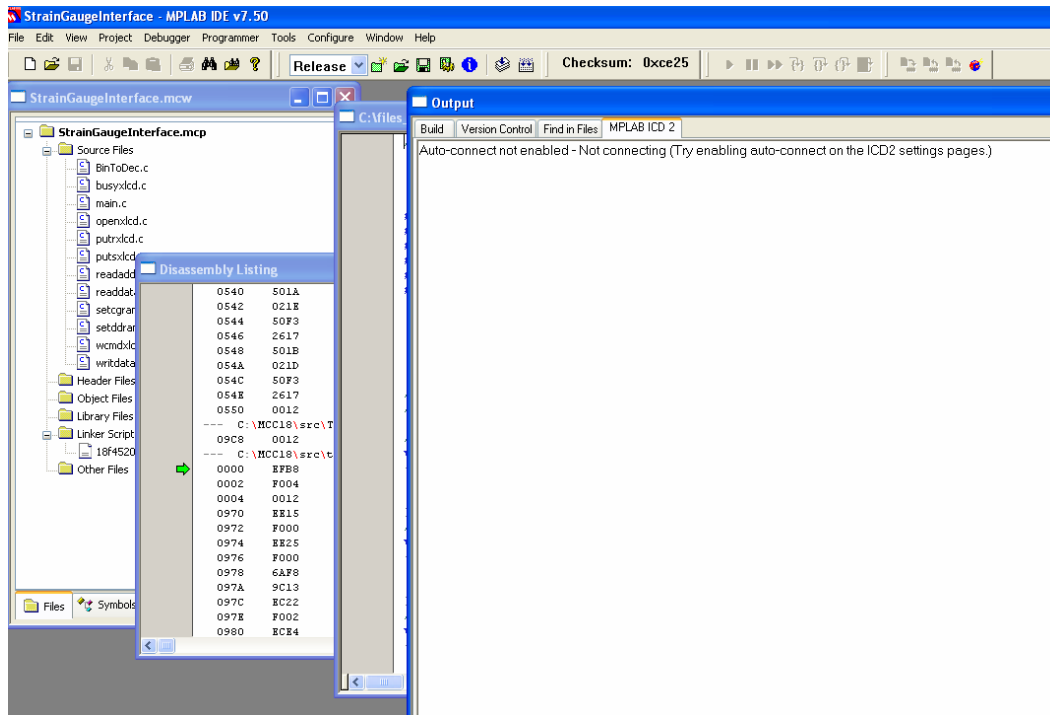

Figure 1. MPLAB IDE has opened your Strain Gauge project
2. Navigate to your folder and double-click on  icon. A window similar to figure 1 will pop up.